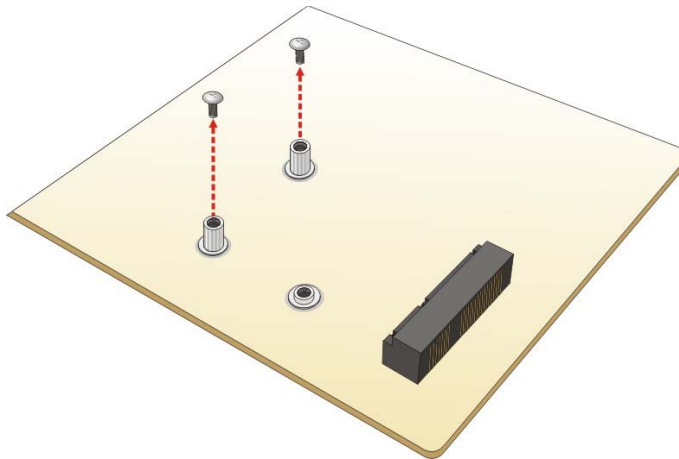

Figure 3-7: Removing the Retention Screws
Step 3: Remove the two retention screws as shown in **Figure 3-7**.